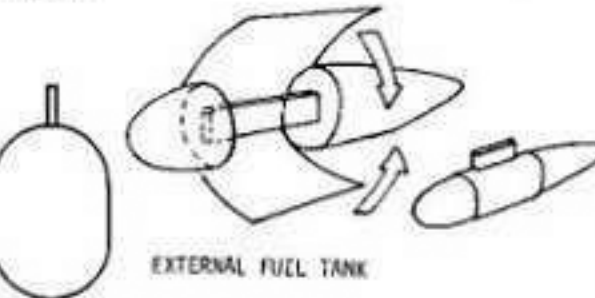

FIG. 16
STEP 16. Glue wings, fillets (paper) stabilizer and rudder to fuselage (Fig. 16).